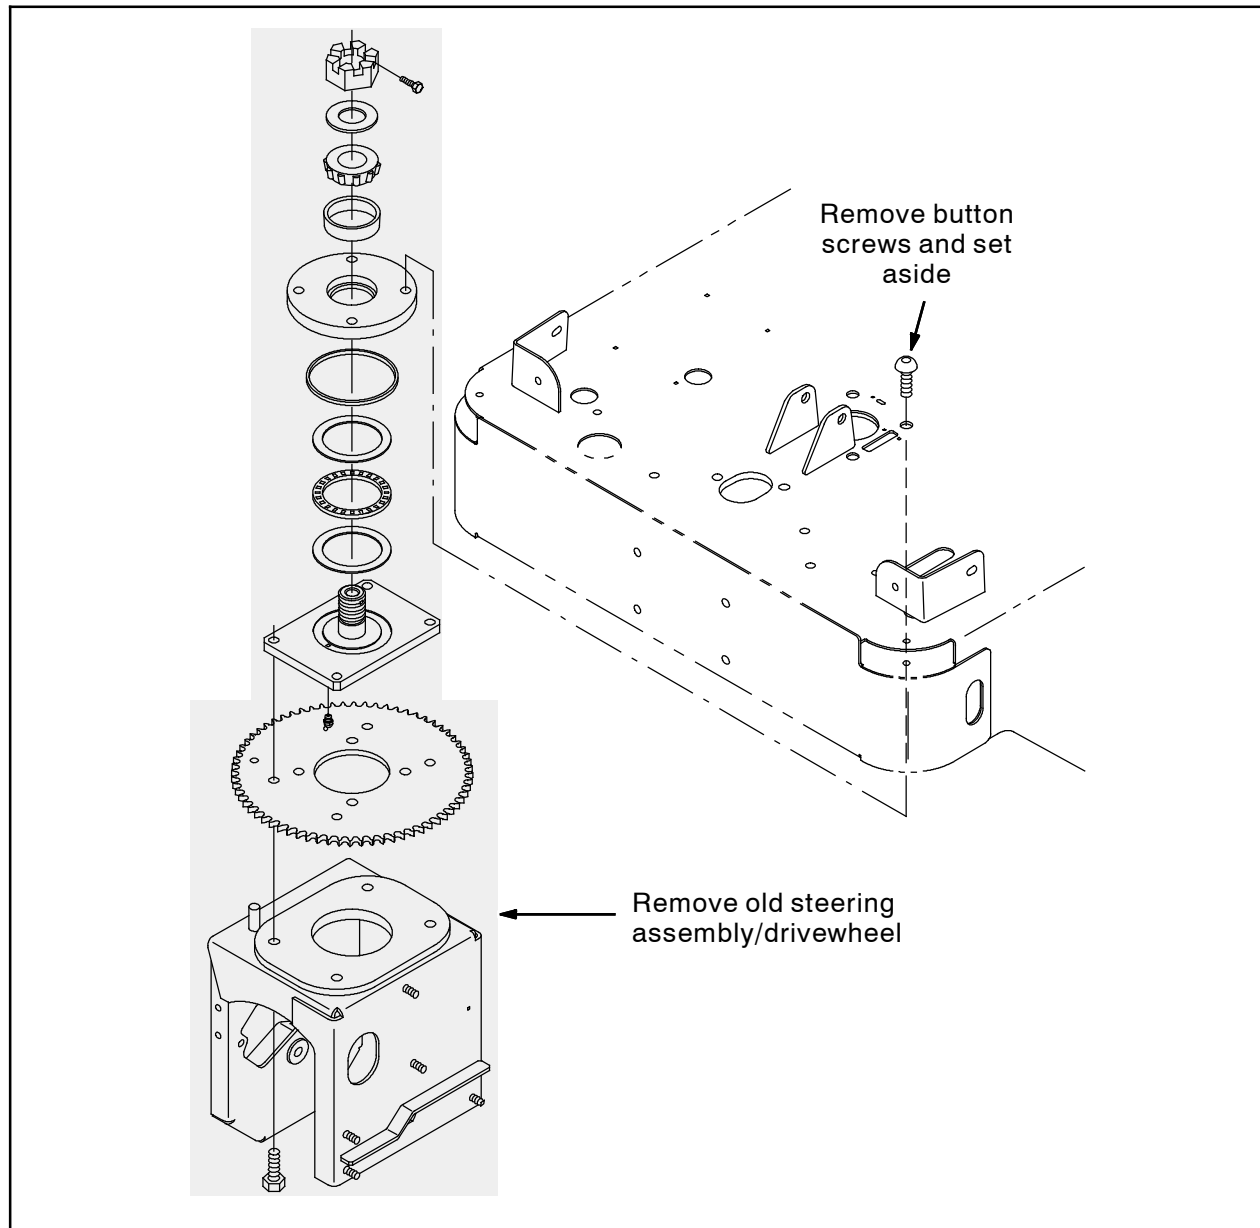

FIG. 2
7. Remove the four M12 button screws securing the front wheel drive assembly to the machine. Set the four M12 button screws aside. (Fig. 2)